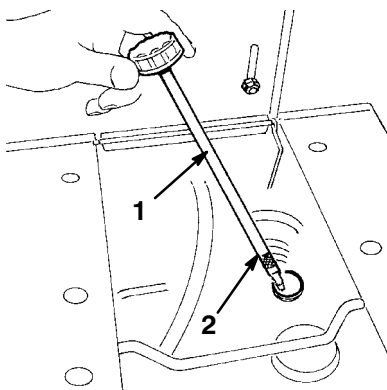

Figure 6
- Unscrew and remove the dipstick from the oil fill tube (Fig. 6).